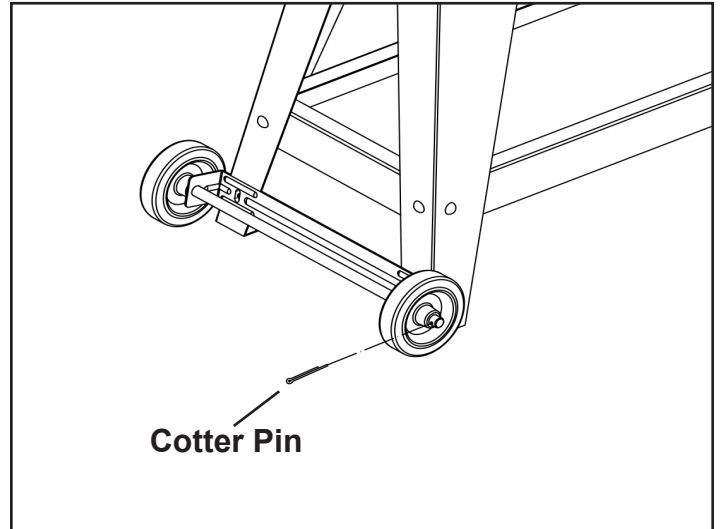

FIGURE 4
6. Slide the shaft through the holes in the wheel mounting bracket. Slide the wheels onto the shaft on the outside of the mounting bracket, and secure them with the cotter pins. SEE Figure 4.